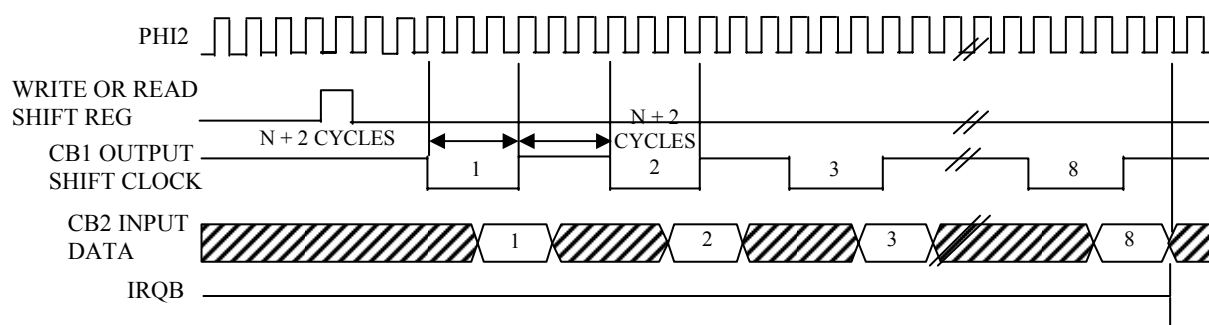

Figure 1-6 Shift In - Counter T2 Control
The Shift Register (SR) performs bi-directional serial data transfers on line CB2. These transfers are controlled by an internal modulo-8 counter. Shift pulses can be applied to the CB1 line from an external source, or (with proper mode selection) shift pulses may be generated internally which will appear on the CB1 line for controlling external devices. Each SR operating mode is controlled by control bits within the ACR. See Table 1-10 for control bit information. See also Figures 1-6 through 1-12.
In this mode, the shifting rate is controlled by the low order eight bits of counter T2. Shift pulses are generated on the CB1 line to control shifting in external devices. The time between transitions of the CB1 output clock is determined by the PHI2 clock period and the contents of the low-order T2 latch (N). Shifting occurs by writing or reading the SR. Data is shifted into the low-order bit first, and is then shifted into the next higher order bit on the negative-going edge of each clock pulse. Input data should change before the positive-going edge of the CB1 clock pulse. This data is then shifted into the SR during the PHI2 clock cycle following the positive-going edge of the CB1 clock pulse. After eight CB1 clock pulses, IFR2 will set and IRQB will go to a Logic 0. See Figure 1-6.